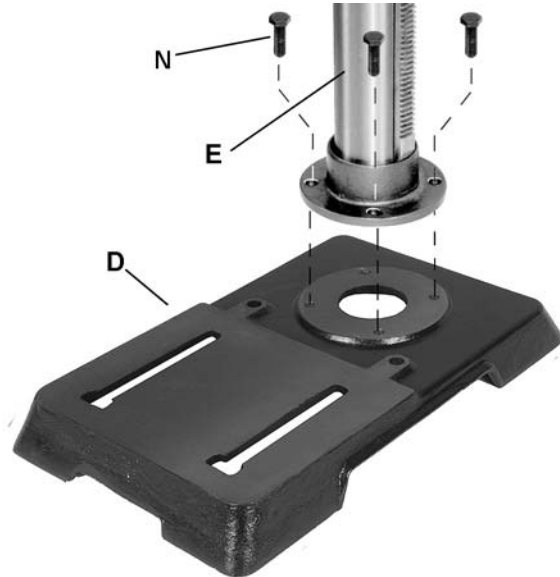

Figure 3
Refer to Figure 3:
2. Rotate head assembly until sides of *belt cover* (A₁) are parallel with sides of *base* (D, Figure 3).